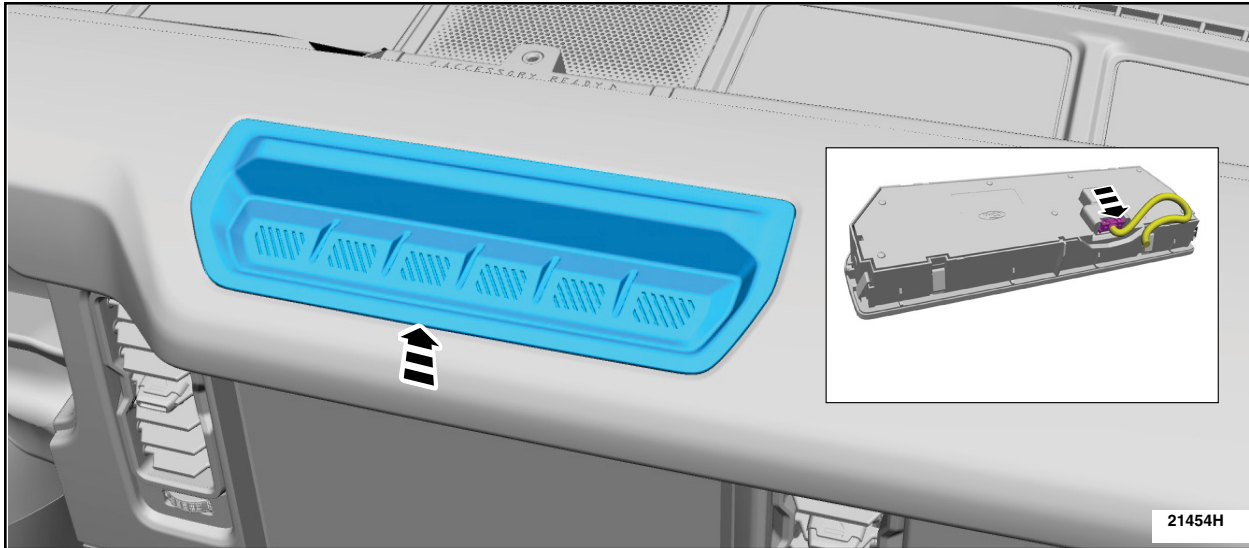

FIGURE 8
8. Release the instrument panel switch pack, disconnect the electrical connector and remove the instrument panel switch pack. See Figure 8.